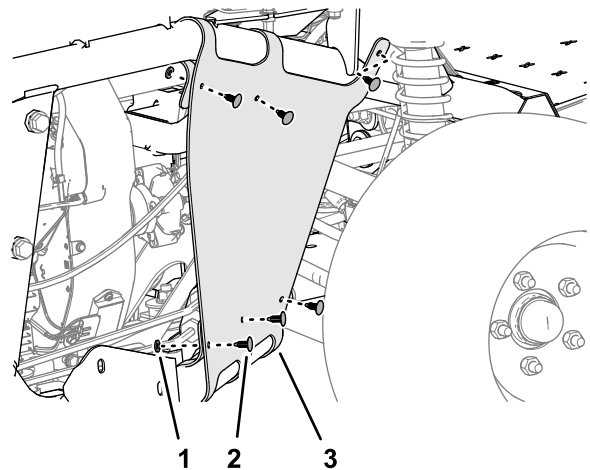

Figure 43
6. Remove the 6 push-in fasteners and 5 washers (9/16 x 1/2 inch) that secure the inner-fender shroud to the right, upper and right, lower-frame tubes (Figure 43).
7. Remove the inner-fender shroud from the machine (Figure 43).